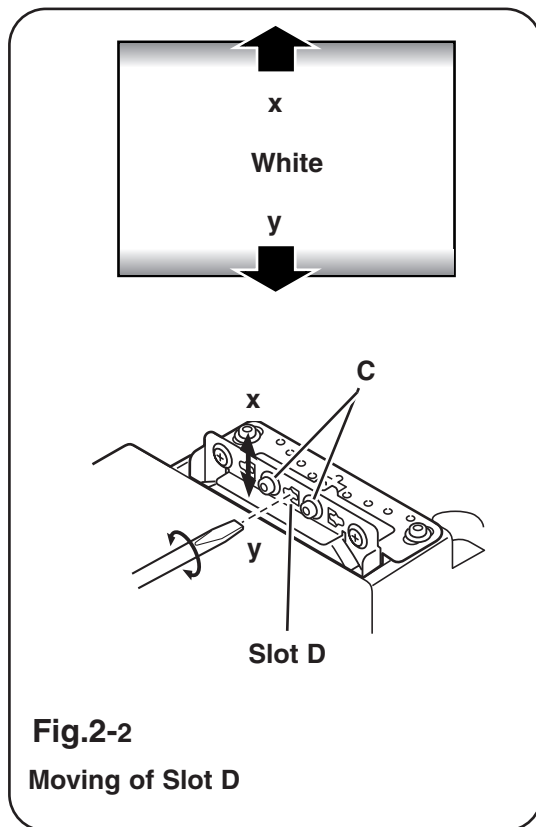

Fig.2-2
- 2) If the shading appears on the top or bottom of the screen as shown in **Fig.2-2**, loosen 2 screws **C**, and adjust the slot **D** to make color uniformity in white by using a slot screwdriver